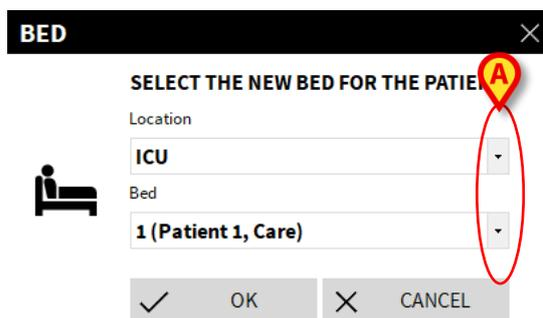

Fig 113
The following window opens (Fig 113).
- Use the arrow buttons (Fig 113 **A**) to select the bed to which the patient will be transferred